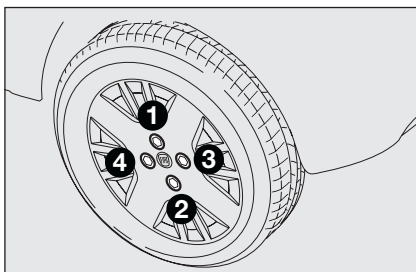

fig. 12
- ☐ use the wrench provided to tighten the bolts completely in a criss-cross fashion following the numerical sequence shown in **fig. 12**.